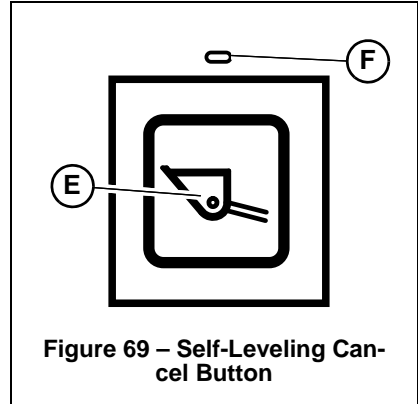

Figure 69 – Self-Leveling Cancel Button
To deactivate self-leveling, press the self-level cancel button (E, Figure 69) on the control pad. To restore self-leveling, press button (E) again.